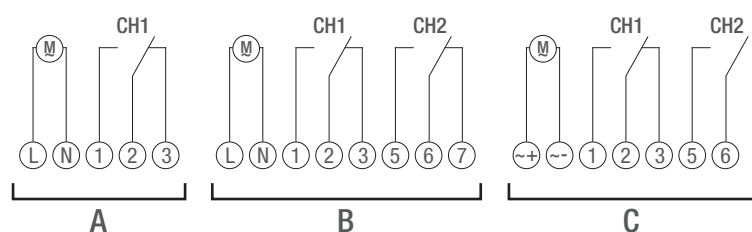

Fig. 5: Circuit diagram
3. Connect the DIN-rail timer in accordance with the circuit diagram (Fig. 5/A), (Fig. 5/B) or (Fig. 5/C).